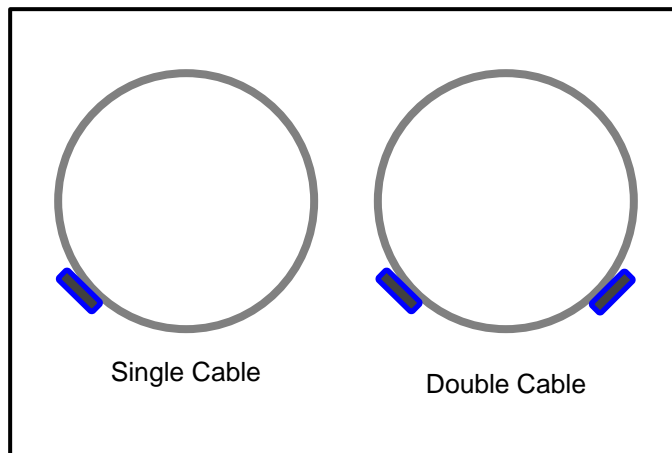

Figure 1: Cable Placement on Pipe
2. For straight tracing, install the heating cable on the lower half of the pipe; for example, in the 4 o'clock or 8 o'clock position as shown in Figure 1.